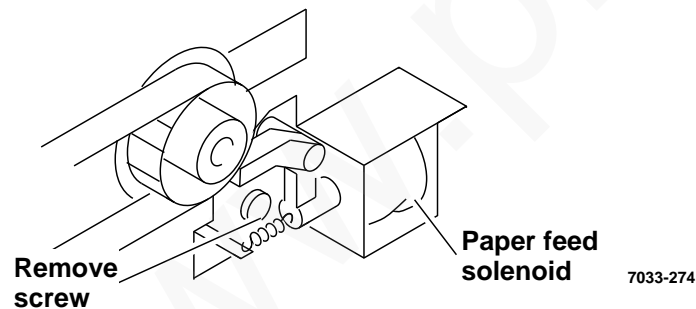

Figure 25. Paper feed solenoid removal
- b. Remove screw securing paper feed solenoid (Figure 25), and remove paper feed solenoid.